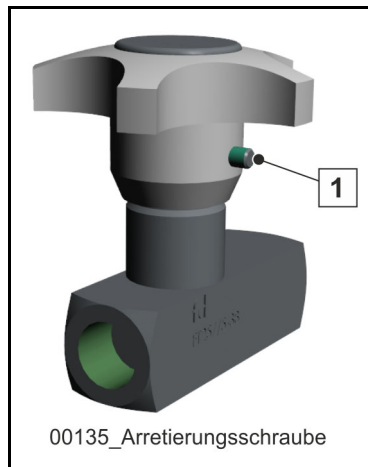

Fig. 317
- Loosen the locking screw (1) (**Fig. 317**) on the one-way restrictor
- Tighten the locking screw (1) (**Fig. 317**) on the one-way restrictor